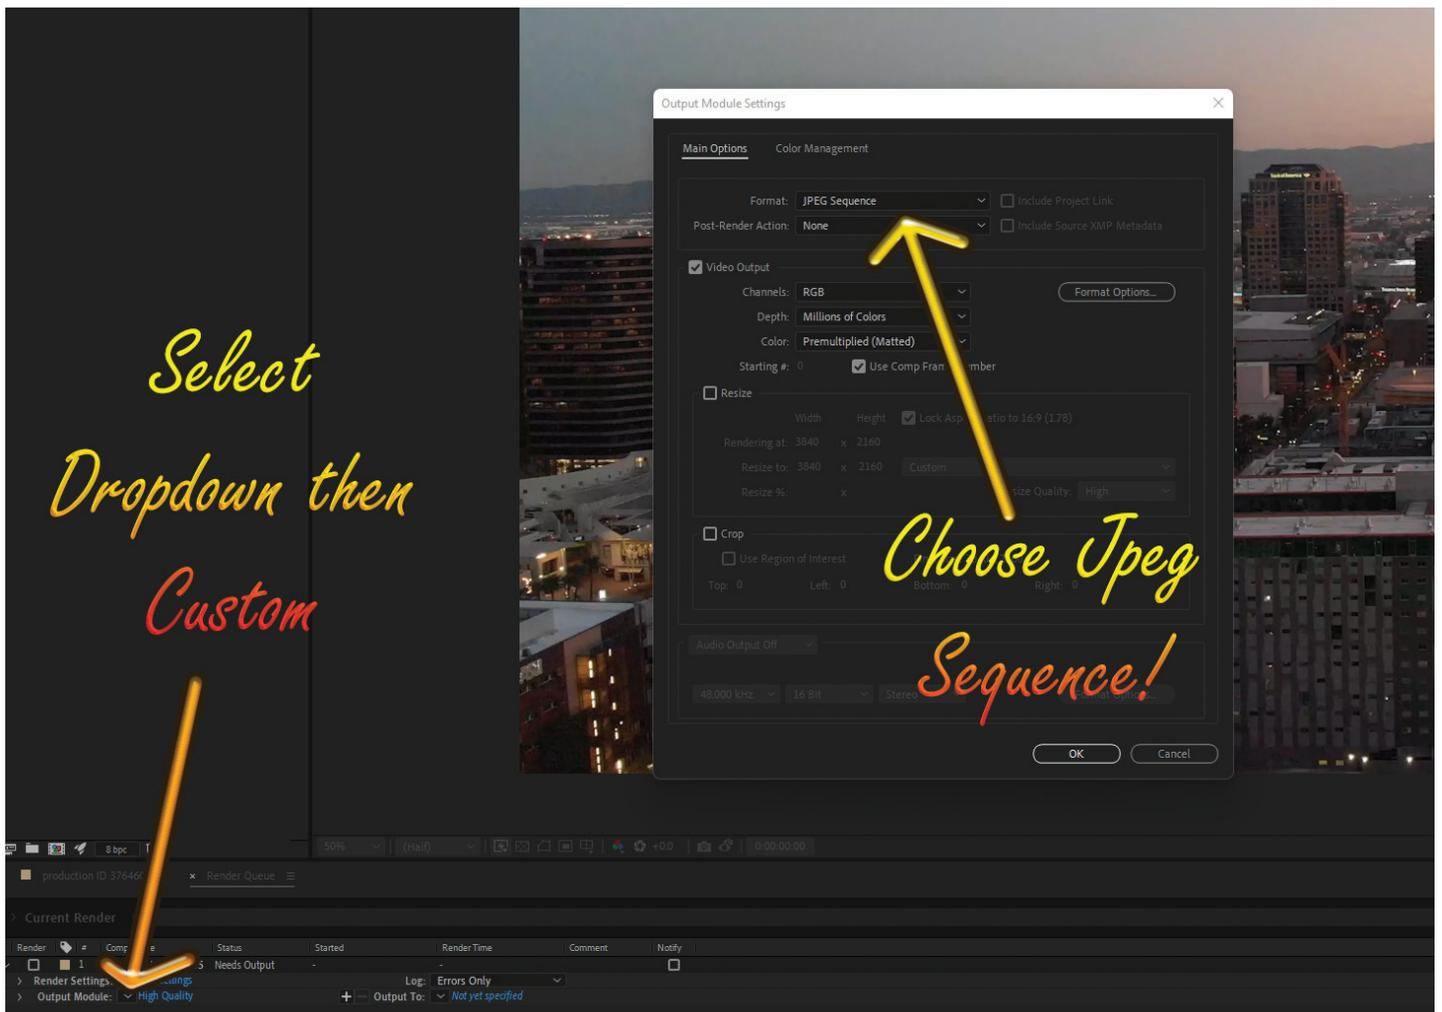

Figure 1
The next step is to export to an image sequence to use in 3ds Max. Select the drop-down and custom, then select Jpeg Sequence, as shown in Figure 1. Using the Adobe After Effects render queue, export the images using the Jpeg Sequence option next to the Output Module label. See Figure 1.
- AGASITE.dwg** = Site Plan (see Figure 1).